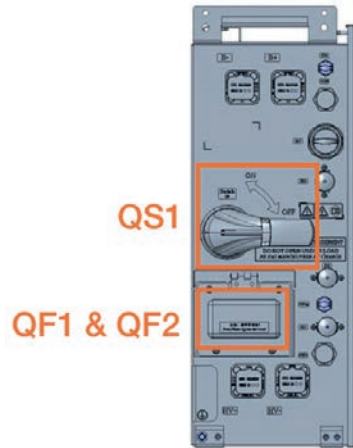

Figure 121. Location of QS disconnect and QF1, QF2 circuit breakers
- c. Turn “OFF” QS, QF1 and QF2 in all the Battery cabinets. Figure 121.